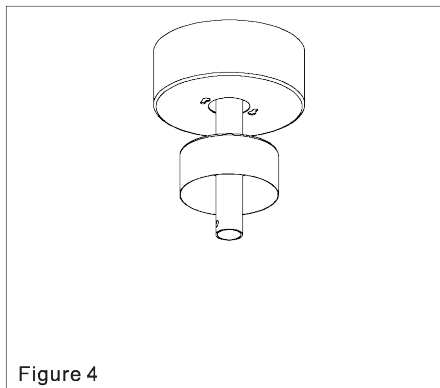

Figure 4
4. Remove and retain the clevis pin and lowering rod clevis and pass it through the canopy and coupling cover (Figure 4).